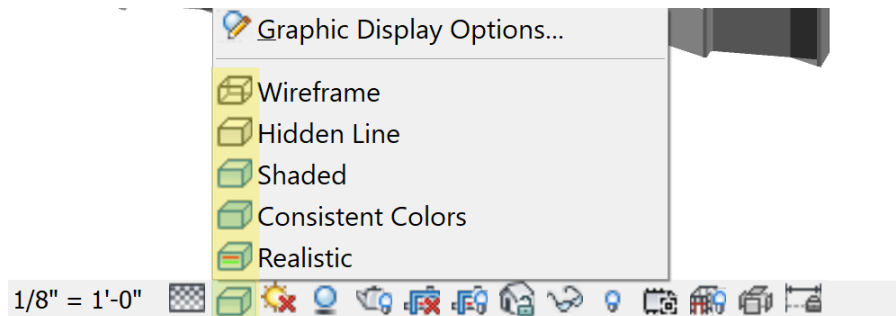

Figure 4-8. Shading Level
- Then, set the shading level by clicking the icon in the lower left-hand corner and set it to **Shaded** (see Figure 4-8). The sphere should show up red.